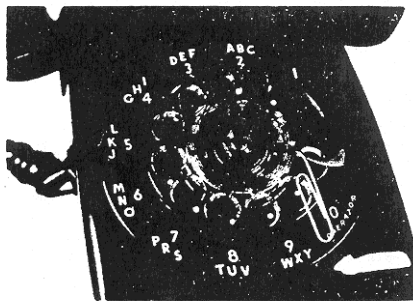

Fig. 3-2 REMOVING LUCITE FINGER PLATE
- a: Remove the screws (27) and dust cover (26).
- b: Remove the screws (25) and spring assembly (24).
- c: Loosen but do not remove the nut (5) holding the main gear assembly (3).
- d: Remove the screws (18) and gear train assembly (17).
- e: Remove the finger plate (14), see Fig. 3-2.
- f: Remove the special hex. nut (12), the spring washer (11) and the spider spring (10).
- g: Pull the cam casting (9) forward and unwind the main spring (8), then lift out the cam casting and main spring.
- h: Remove the nut (5), the washer (4), the main gear assembly (3) and the main shaft (2).
- i: Remove the screw (16) and the finger stop (15).
- j: Remove the screws (7) and the numeral ring (6).
- k: Remove the gasket (28) from the finger plate.